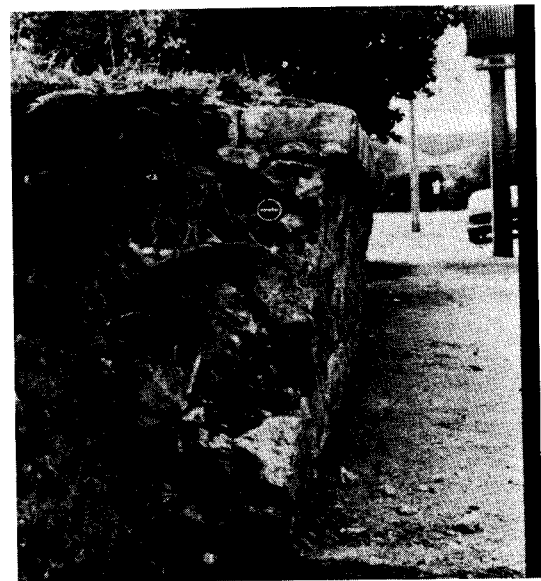
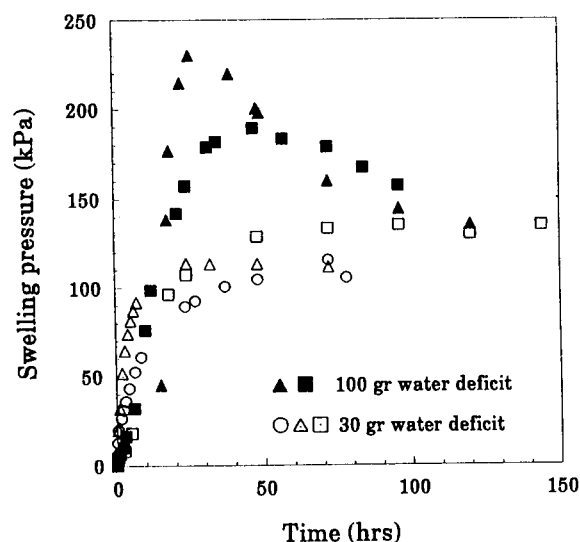
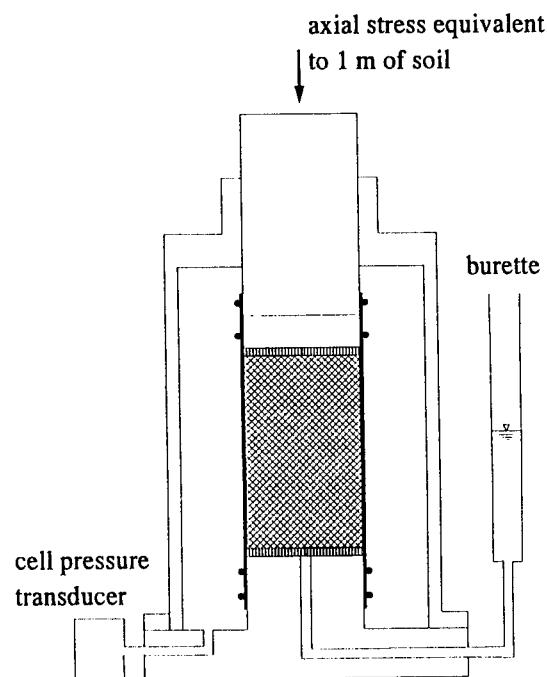

Figure 6. Pronounced lean on a domestic boundary wall retaining residual clay. Top: the wall prior to demolition. Bottom: the clay retained.
Figure 8. Lateral swelling pressures generated during one dimensional swelling of Auckland residual clay.
Figure 9. Triaxial cell used for one dimensional swelling tests.
In the parts of Auckland with residual Waitemata clays older residential properties are often bounded by retaining walls up to a one metre or so in height. Many of these walls dating from the 1920's and 1930's now have a pronounced lean. An example of one such wall is shown in Fig. 6 along with an
7. It is clear that the clay shrinks away from the wall in summer but it is in contact during the winter. During the summer the cracks formed will collect some debris. When the cracks are filled with water and the clay swells to close the cracks which are now wedged with debris. As a consequence quite large swelling pressures will be exerted against the wall which requires a small outward movement to occur to relieve the pressure. Over the years this outward movement is cumulative, hence that state of the walls shown in Fig. 6.
Figure 8 has the swelling pressures generated during one dimensional swelling of unsaturated specimens of the residual clay from a site adjacent to the wall shown in Fig. 6. The specimens were 75 mm in diameter and 150 mm in length. After trimming from a near saturated state the specimens were allowed to dry in the laboratory until they had lost 30 grammes mass (about 10% of the water in the sample) and 100 grammes (minor surface cracking was then visible). They were then mounted in a  $K_0$  triaxial cell having a very stiff cell wall. Filter paper side drains and a conventional rubber membrane were used. The cell was filled with water and care taken to flush out as much air as possible. A pressure transducer was attached to the cell pressure line and the cell fluid isolated by closing the valve. An axial load equivalent to the vertical stress from a one metre depth of soil was applied to the specimen and the clay given access to water from a burette through the bottom drainage disk. This set-up, illustrated in Fig. 9, was intended to model the situation in the field when water enters the soil from the cracks but lateral swelling is restrained because of the adjacent wall.